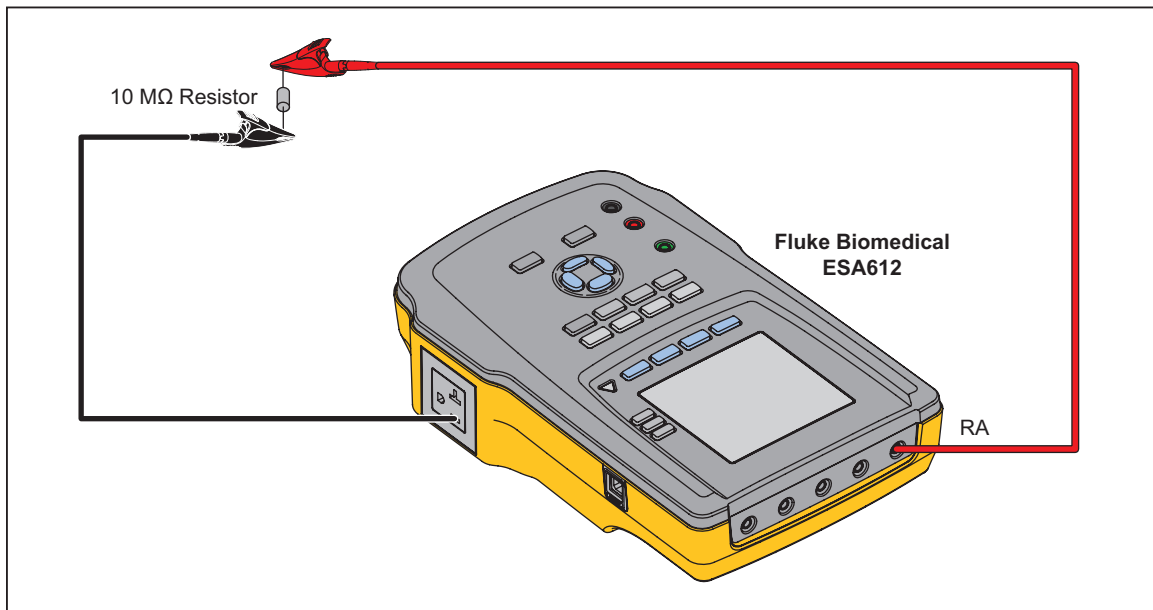

Figure 3-12. Mains to AP Verification Connections
67. With the EO Hot still connected to one side of a 10 M $\Omega$  resistor, connect the other side of the resistor to the RA Applied Part as shown in Figure 3-12.